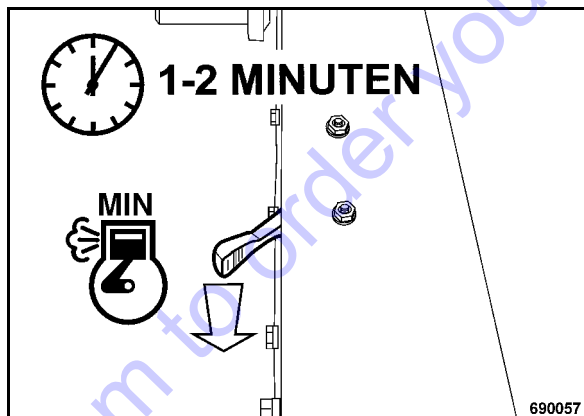

Fig. 28
- Shift the throttle lever to position "MIN" (Fig. 28) and let the engine run with idle speed for a short while.